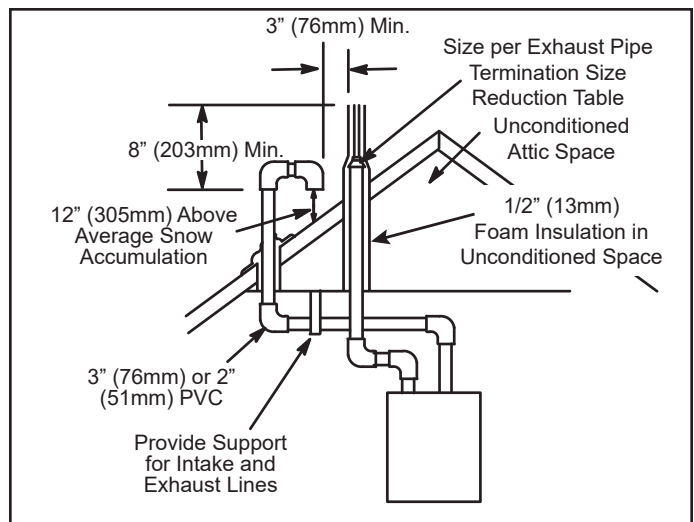

Figure 31. Direct Vent Roof Termination
Intake and exhaust pipes may be routed either horizontally through an outside wall or vertically through the roof. In attic or closet installations, vertical termination through the roof is preferred. Figure 31 through Figure 38 show typical terminations.
3. On roof terminations, the intake piping should terminate straight down using two 90° elbows (Figure 31).